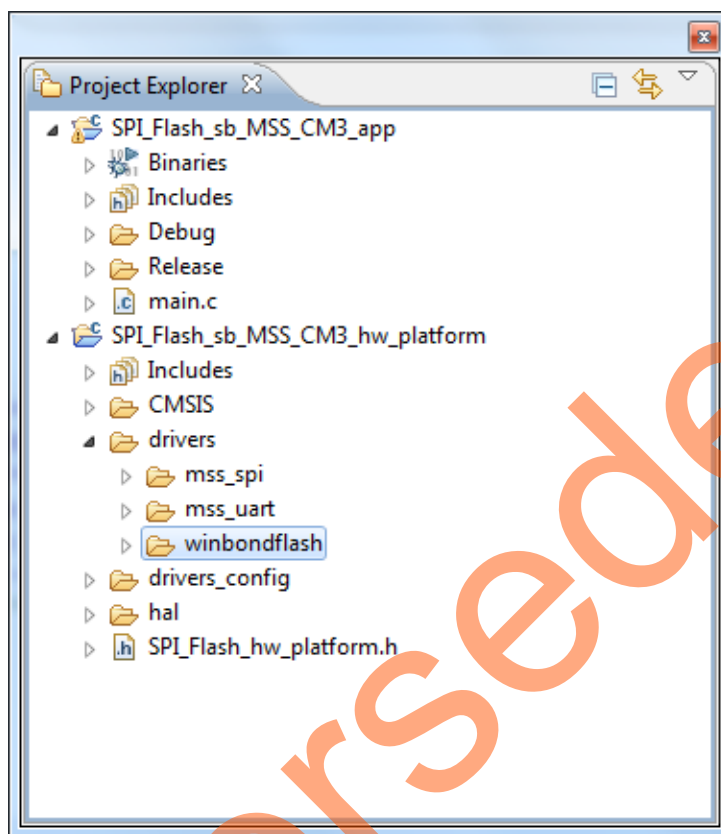

Figure 22 • Project Explorer window
6. Copy the **winbondflash** folder to the drivers folder of SPI_Flash_sb_MSS_CM3_hw_platform project in the SoftConsole workspace, as shown in Figure 22.